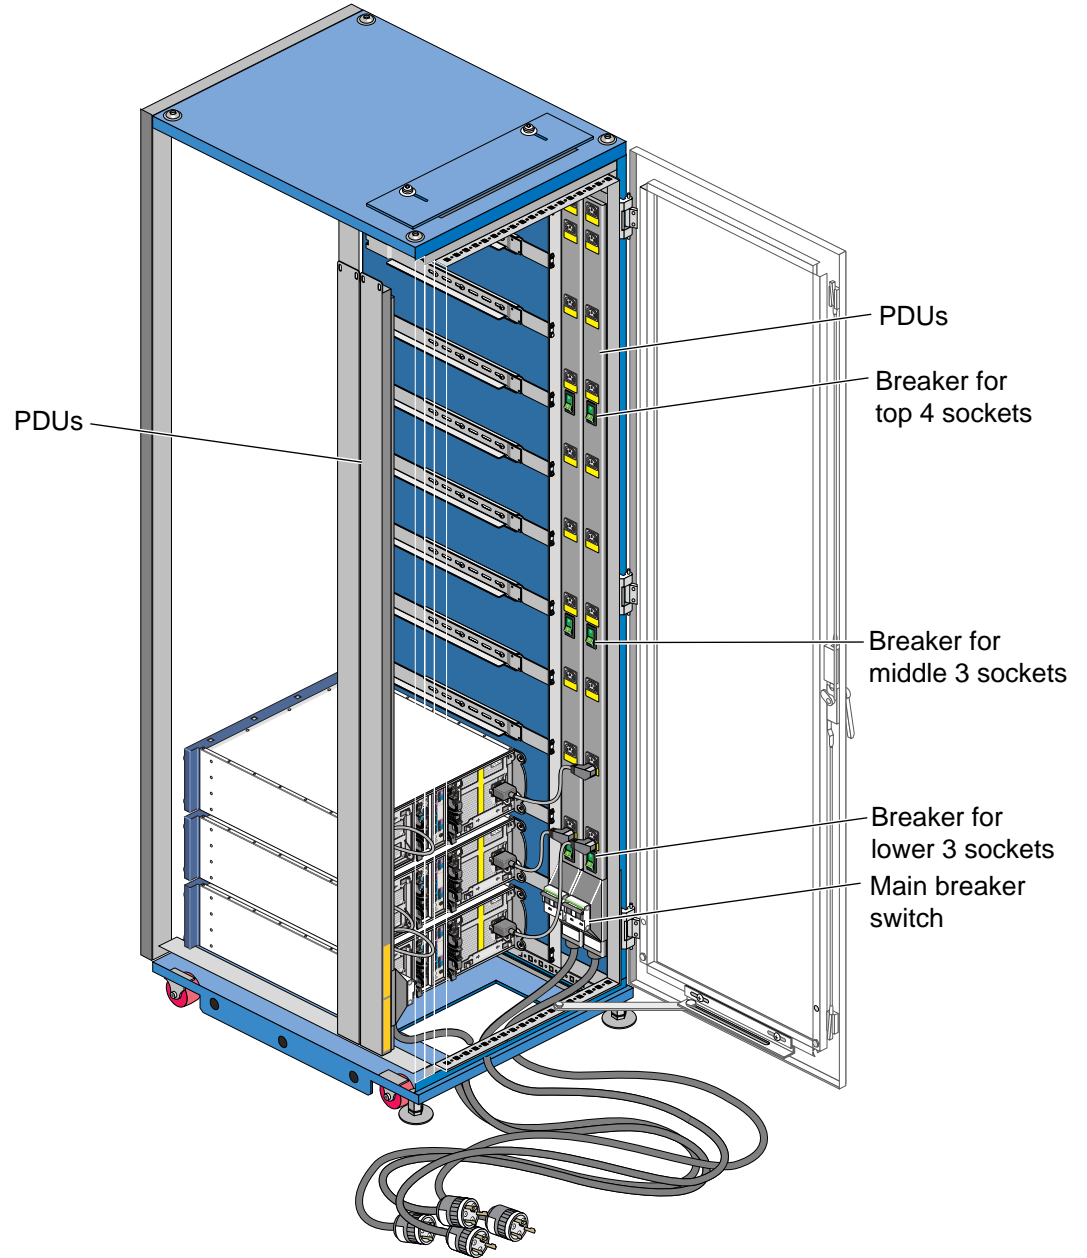

Figure 2-3 Rack Power Cabling
The rack requires 220 V and is shipped with a country-specific power cord for each power distribution unit (PDU) that the rack contains. Each power supply of each enclosure in the rack is cabled to the rack PDU on the appropriate side; Figure 2-3 shows an example.
3. If they have not already been connected, connect each PDU power cord to a power source. The PDU power cords can be routed through an opening at the top or the bottom of the rack. See Figure 2-3 on page 41.
Besides the main breaker switch at the bottom of each PDU, the rack PDUs have breaker switches at each 12U of space so that you can power off the enclosures in groups of four and leave the others powered on. Figure 2-3 shows their locations.